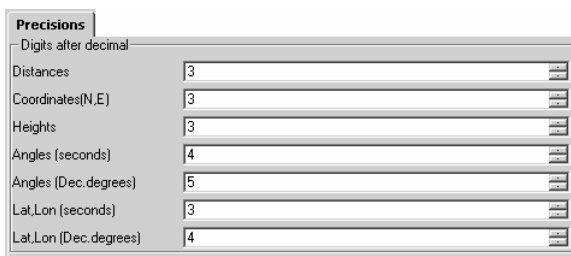

Figure 5-9. Precisions Tab
- The *Precisions* tab (Figure 5-9) defines the number of digits after decimal.